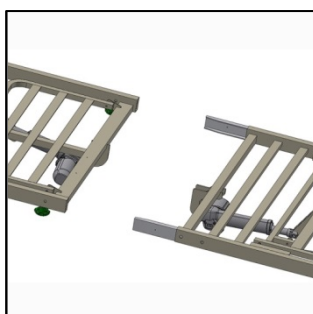

Figure 8: Connecting platform sections
11. Carefully align the two sections of the bed and slide together (figure 8). Tighten the turn screw to secure then carefully place the bed onto its side to connect the controller.